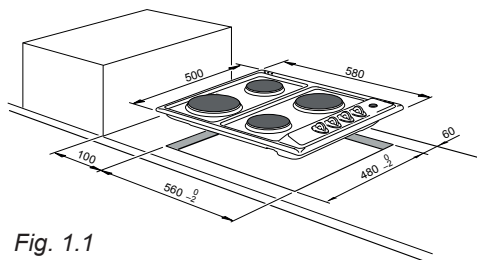

Fig. 1.1
In order to install the cooker top into the kitchen fixture, a hole with the dimensions shown in fig. 1.1 has to be made, bearing in mind the following:
- the cooking hob must be kept no less than 100 mm away from any side wall (fig. 1.1);